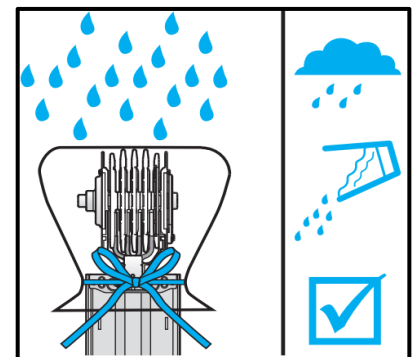

Figure 7: Secure Cover
5. Secure the cover by tightening or tying the securing material (see Figure 7).